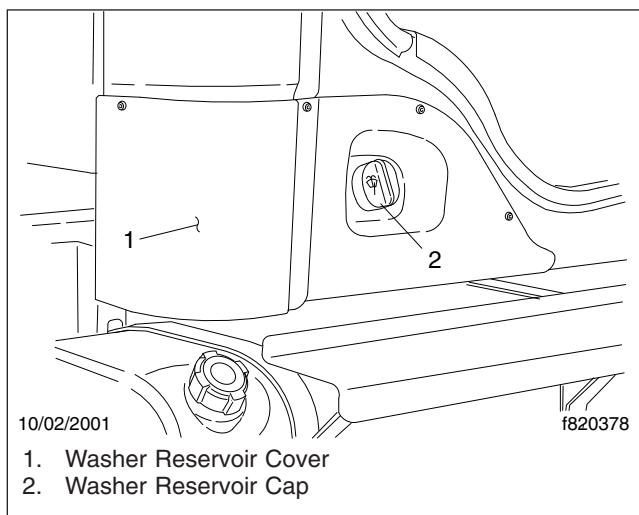

Fig. 1, Washer Reservoir Cover
5. Remove the Torx® fasteners that attach the washer reservoir cover to the right side of the cab. See **Fig. 1**. Remove the cover.